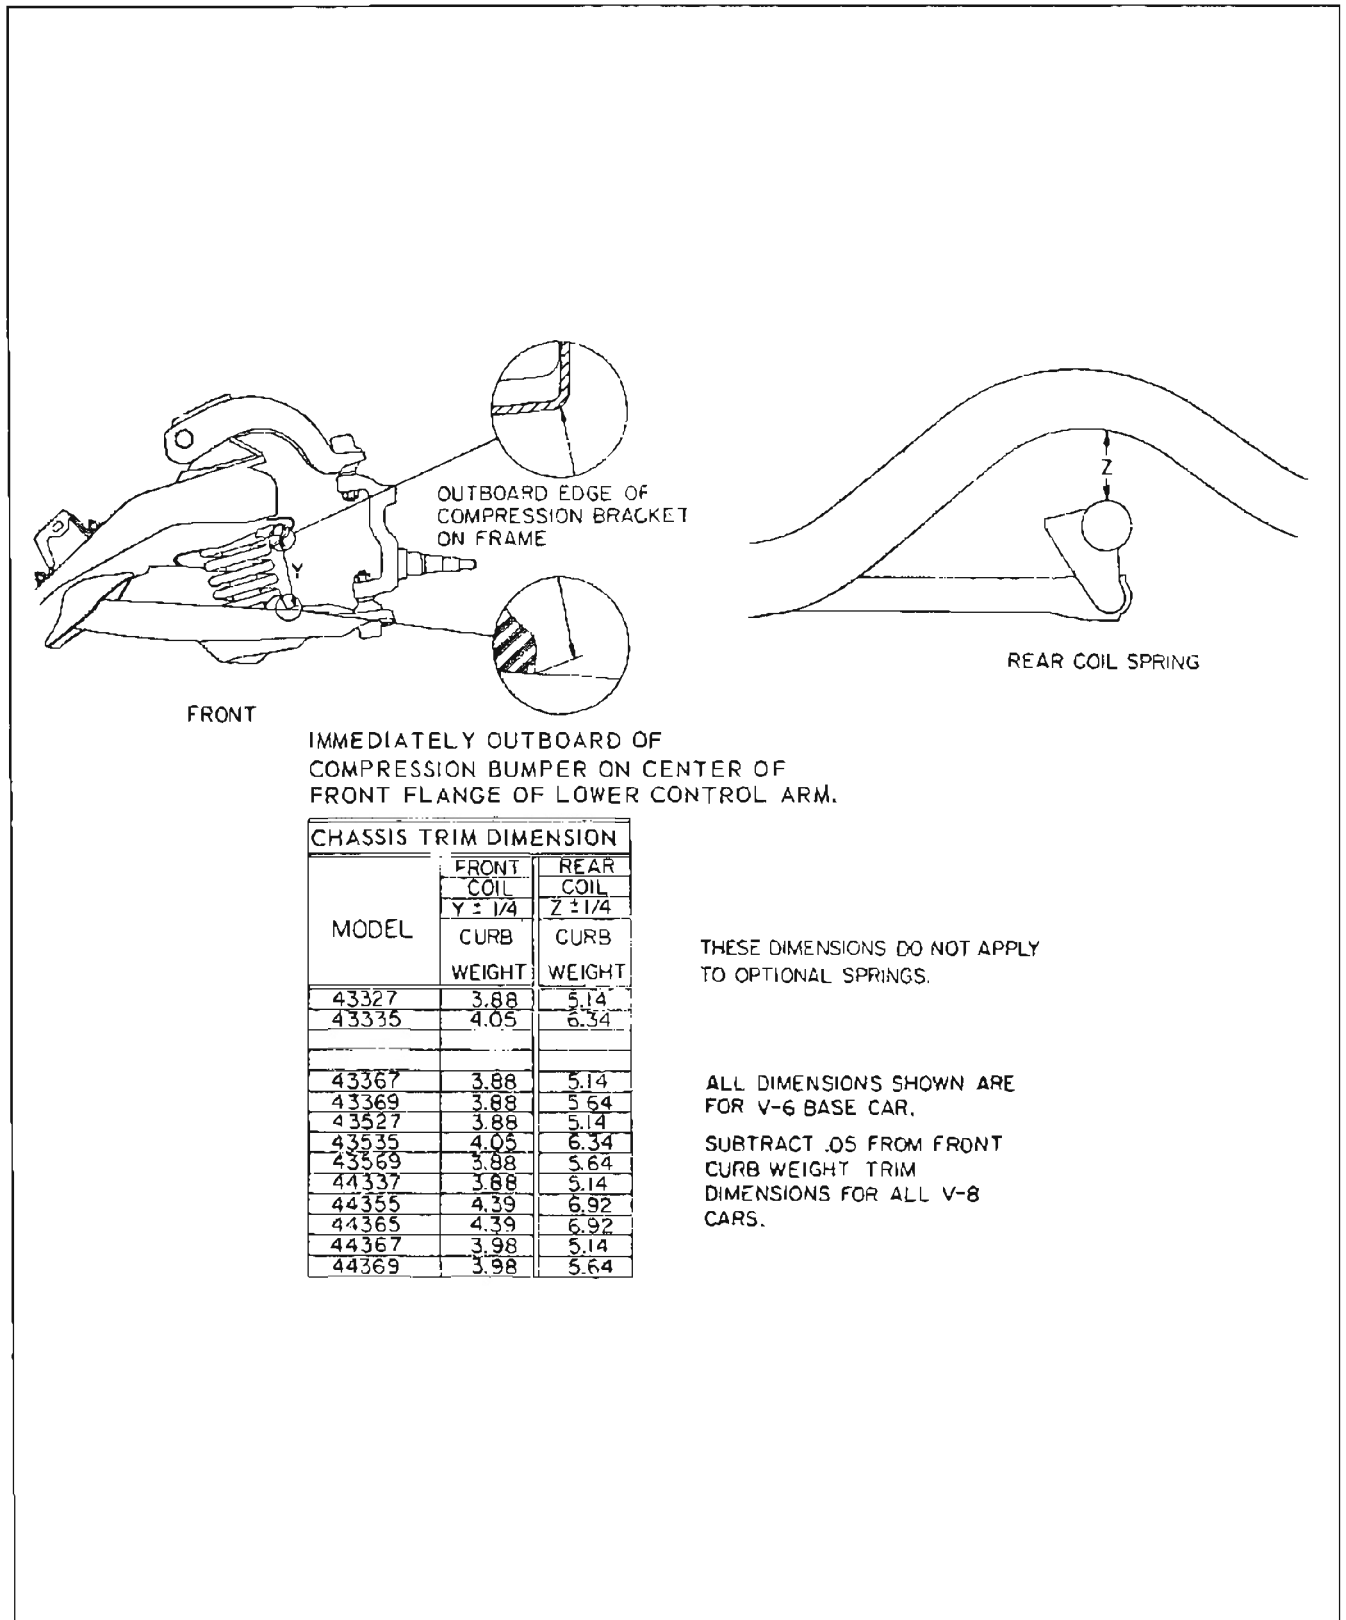

Figure 7-22—Trim Height Chart
1. On a car having service miles, the front spring trim dimension "Y" should be as shown in Figure 7-22 chart.
2. On a car having service miles, the rear spring trim dimensions should be as shown in Figure 7-22 chart.
NOTE: There are no alignment height tools available for the Special and Skylark Series. If desired, trim height gauging pins may be constructed from 1/2" pipe or cold rolled steel cut to the correct trim height. Refer to Figure 7-22 for correct trim heights.